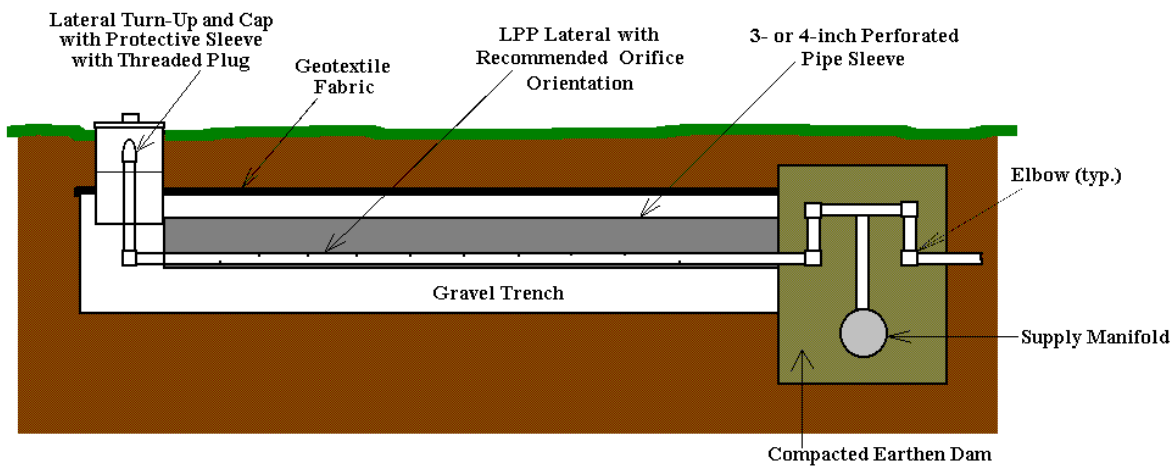

FIGURE 3: Side, Profile Detail of Recommended LPP Trench, including Cross-Section of Recommended Manifold-to-Lateral Connection.
possibly attract plant, grass, and tree roots; and prevents freezing of the laterals (though typically not a problem in southeastern climates). (See Figure 3)
3. *Use one 90-degree bend for lateral turn-ups, not one or two 45-degree bends.* This will facilitate accurate measurement of operating pressure head in the laterals. Using one or two 45-degree bends for constructing the manifold cleanouts, however, would be warranted. (See Figure 3)
6. *Elbow the manifold-to-lateral connection over the earthen dam, particularly on sloping sites.* This reduces effluent drain-back through the manifold or along the manifold trench. (See Figure 3)